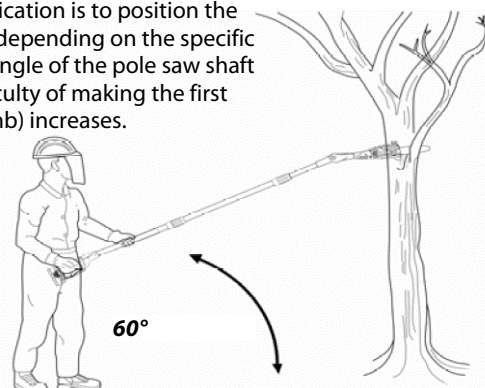

Figure 11
Proper Cutting Stance (**Figure 11**)
- The most typical cutting application is to position the unit at an angle of 60° or less depending on the specific situation (**Figure 11**). As the angle of the pole saw shaft to ground increases, the difficulty of making the first cut (from the underside of limb) increases.
- Take the proper stance in front of the tree with the Saw OFF (**Figure 11** on page 7).